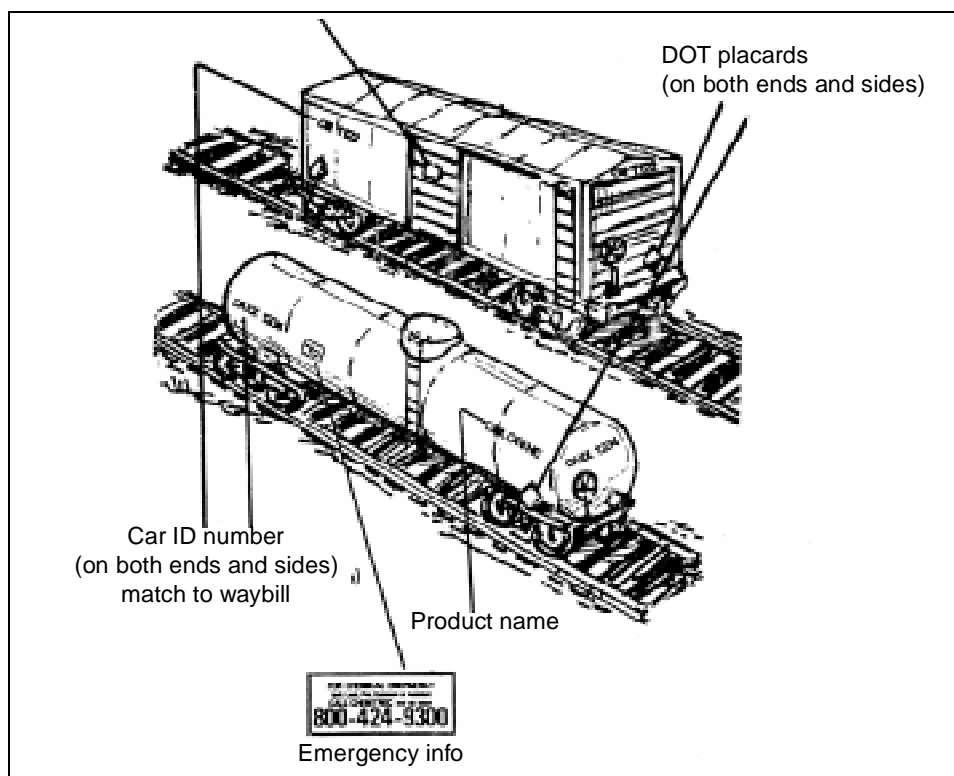

Figure 10-2. Placard placement on railcars
**10-12.** While on Army installations, all railroad cars and vehicles containing ammunition, explosives, and HAZMATs must display a fire symbol. Installation railroad cars and vehicles not destined for movement off the installation shall display at least two fire symbols. Installation transport vehicles destined for shipments off the installation, commercial railroad cars, and motor vehicles will display placards according to DOT regulations when containing ammunition or explosives. Fire symbols or placards are placed on all transport vehicles before loading and are removed after unloading. See Figures 10-2 and 10-3 for placard locations on railcars and vehicles.